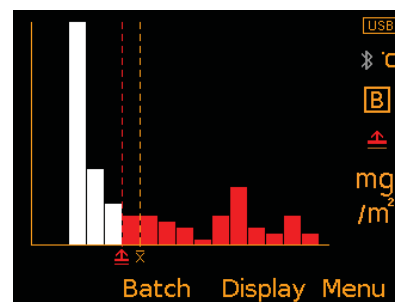

Fig. 6: Distribution Graph
- Distribution Graph** (Fig. 6); Gives a visual representation of the spread of a salt contamination profile reading in relation to the mean contamination level and the limit if one is set.